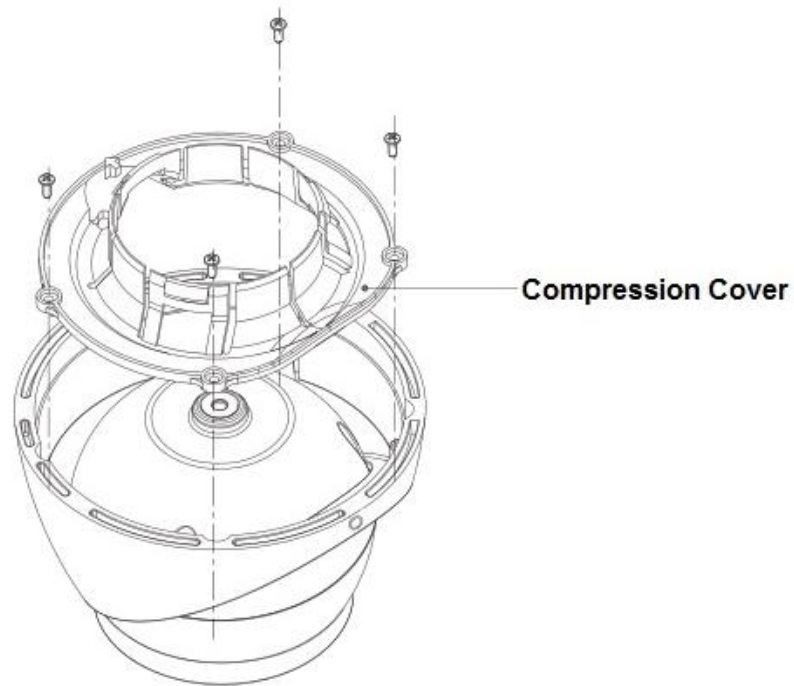

Figure 2-3
1. Use the cross screwdriver to loosen four screws on the dome pedestal, take down the compression cover and take out the dome body. Please refer to Figure 2-3 for more details.